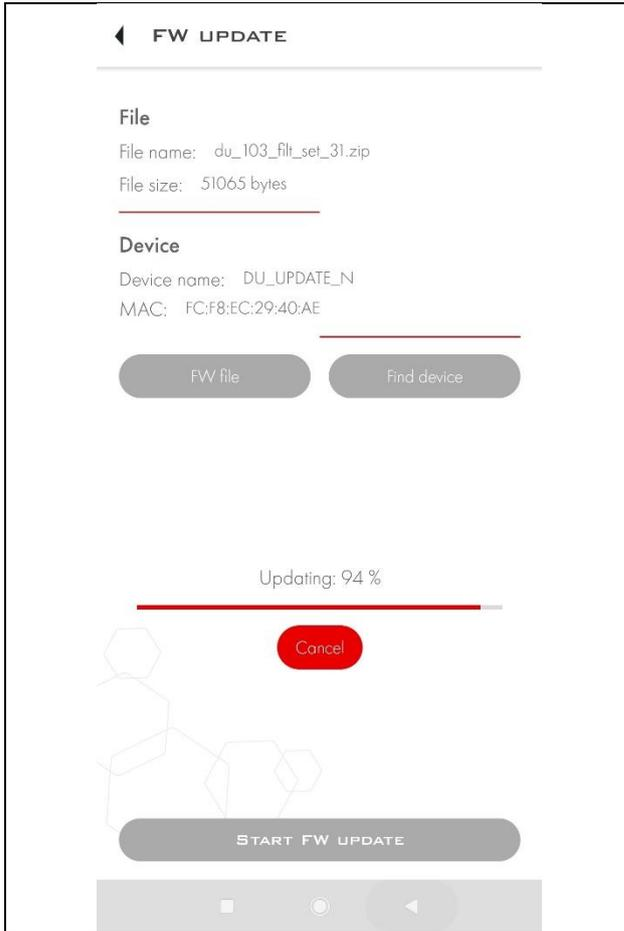
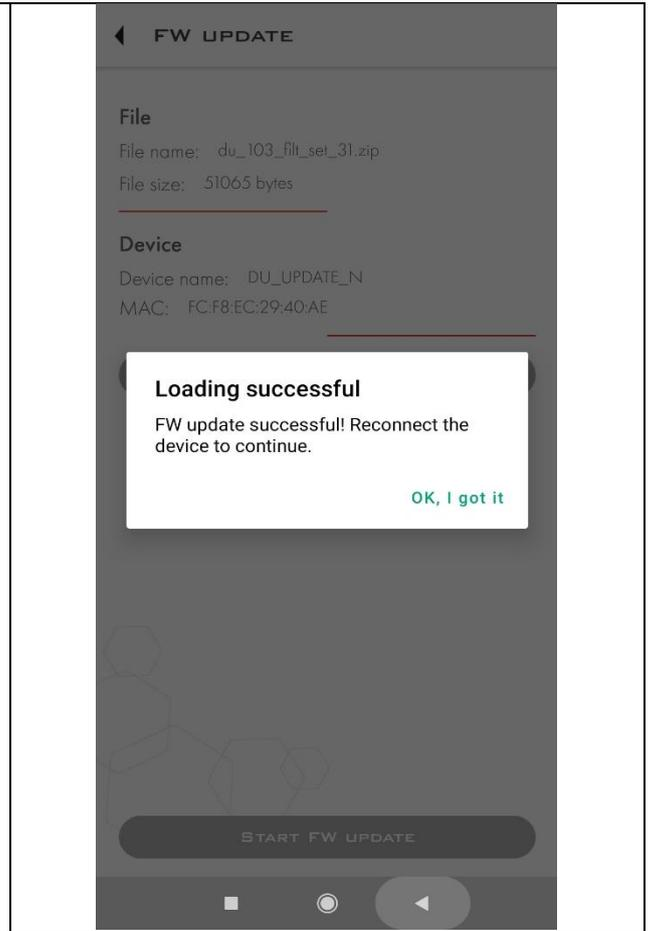

Fig. 10.12. Wait for the update to finish
Fig. 10.13. Tap **OK, I got it**
3. Wait for the progress bar to hit 100% (Fig. 10.12) and then tap on the **OK, I got it** (Fig. 10.13.)